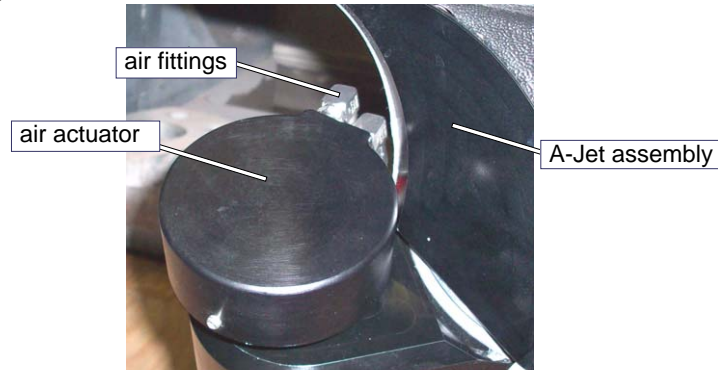

Figure 61
**Note:** If the actuator cover has rotated causing the air fittings to make contact, loosen the set screw (Figure 61) and reposition the cover so that contact is no longer possible. Gently re-tighten the set screw with the cover pulled all the way up.